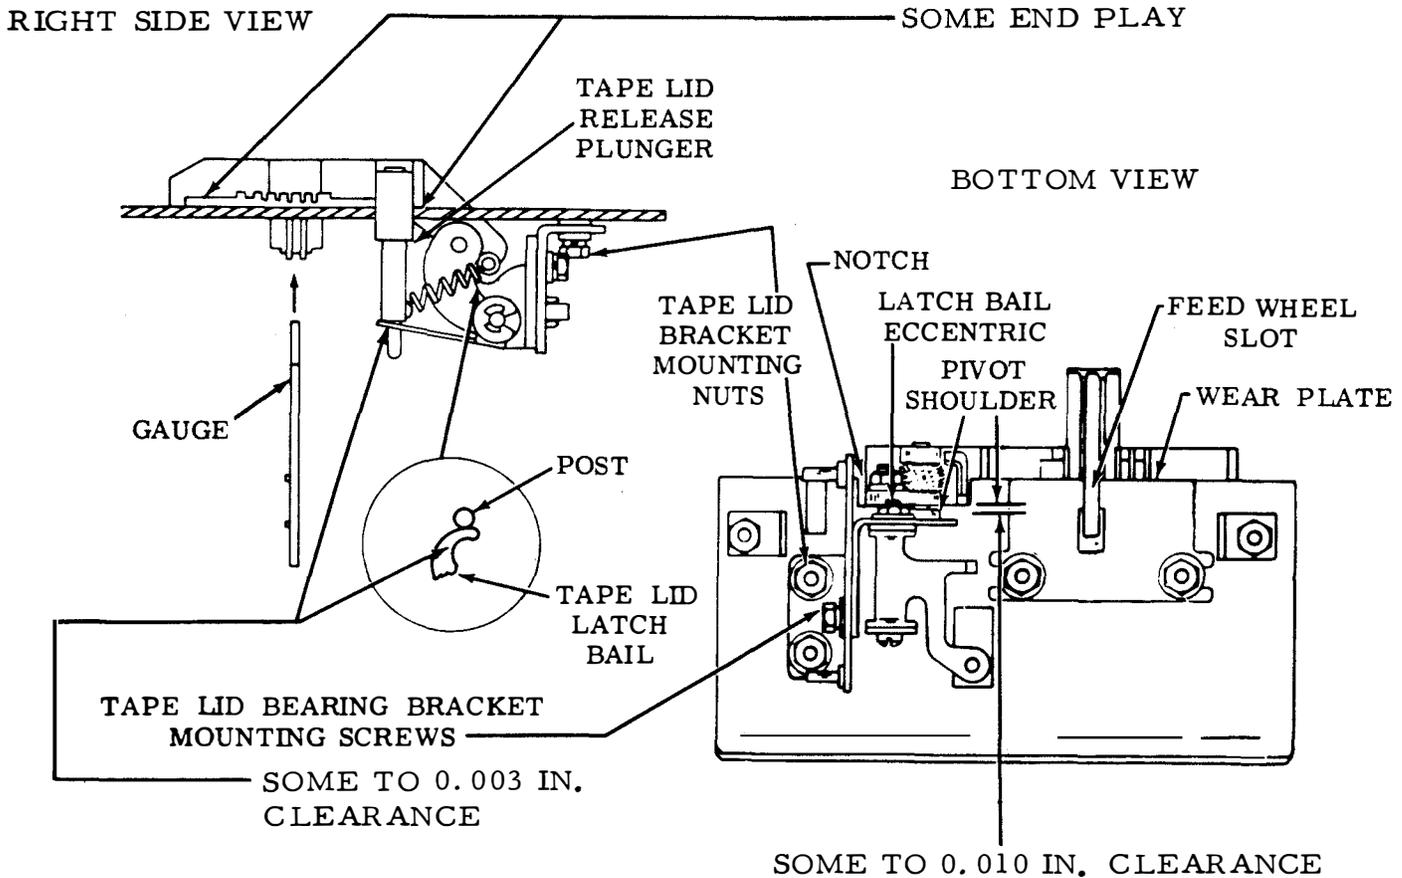

Figure 6-74. Tape Lid
- (1) Refer to figure 6-74.
- (2) Hold tape against notch in tape guideplate.
- (3) Align feedwheel groove in tape lid with slot in plate.
- (4) Measure clearance between tape lid and pivot shoulder. There should be some clearance not exceeding 0.010 inch.
- (5) If clearance is not as specified, loosen tape lid mounting nuts to point of friction tightness.
- (6) Insert tip of TP156743 gauge through slot and into groove of lid and position